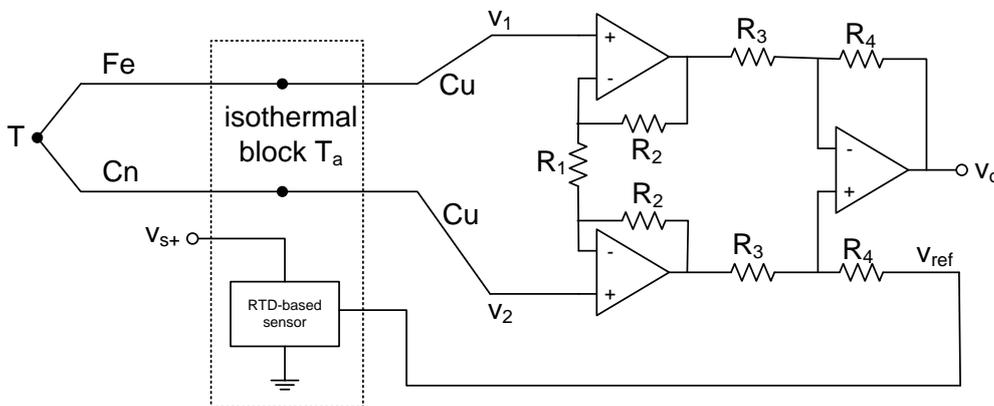
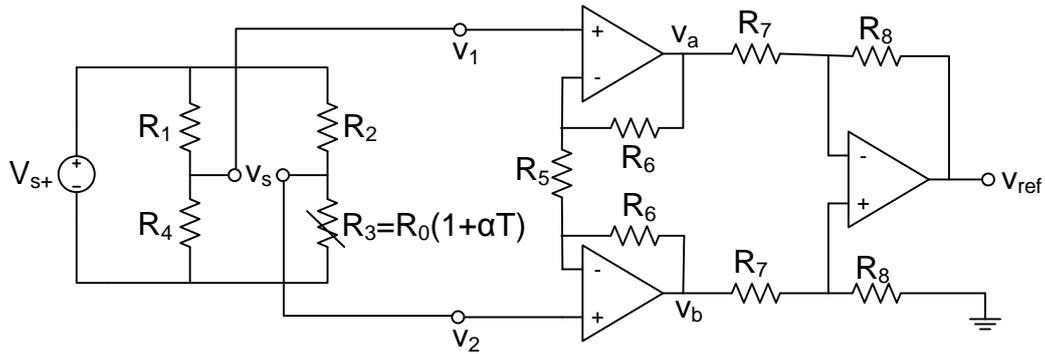

Figure 1: Compensation with a RTD-based sensor and instrumentation amplifier.
Figure 2: Implementation of “RTD-based sensor” block of Figure 1.
The thermocouple in Figure 1 contains a reference junction compensation based on a RTD temperature sensor. The output voltage of this sensor ( $v_{ref}$ ) is given by the following transfer function:  $v_{ref} = 10mV/^{\circ}C \cdot T_a$  with  $T_a$  the environmental temperature at the reference junction. The output of the reference temperature sensor is connected to the reference input of the instrumentation amplifier. It holds for this instrumentation amplifier:
- (5p) (a) There are three important laws that you can use when analysing thermocouples, namely the law of the homogeneous circuits, the law of intermediate metals, and the law of intermediate temperatures. Show using these laws that the voltage across the thermocouple shown in Figure 1 is equal to:
- (5p) (c) The circuit shown in Figure 2 is used to generate the reference voltage  $v_{ref}$  for the thermocouple sensor shown in Figure 1. In other words, Figure 2 shows the internals of the block “RTD-based sensor” in Figure 1. Assume that the supply voltage  $v_{s+}$  is equal to 5 V. Assume further that resistor  $R_3$  is a temperature dependent resistor (RTD) of type PT100. Its relation between temperature and resistance (transfer function) can be approximated with the following linear equation:  $R_3(T) = R_0(1 + \alpha T)$ , with  $R_0$  equal to  $100\Omega$  and  $\alpha = 0.004/^\circ C$ . Assume also that  $R_4 = R_5 = R_6 = R_7 = R_8 = R_0$  and  $R_1 = R_2 = k \cdot R_0$ . What resistance should the resistor  $R_2$  have to ensure that the “RTD-based sensor” has a sensitivity of  $10mV/^\circ C$ ?